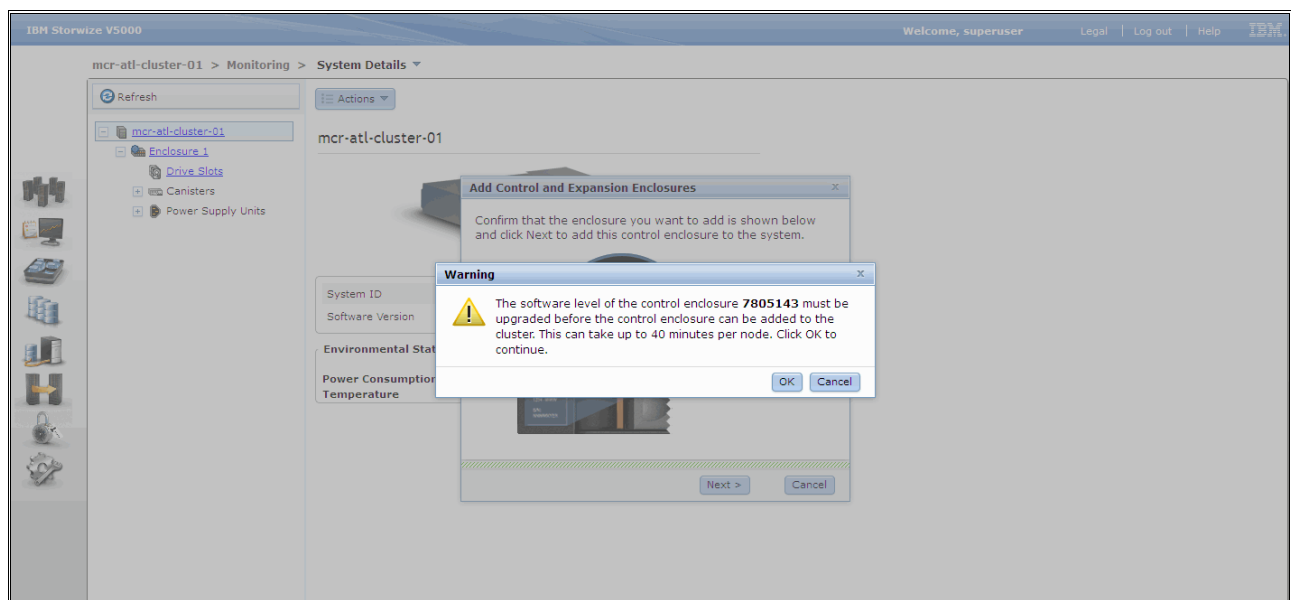

Figure 2-35 New control enclosure software upgrade warning
3. You might receive a message that indicates the software level of the new control enclosure needs upgrading, as shown in Figure 2-35. This is normal if the new enclosure is at a lower level of code than your existing IBM Storwize V5000. Click **OK**.